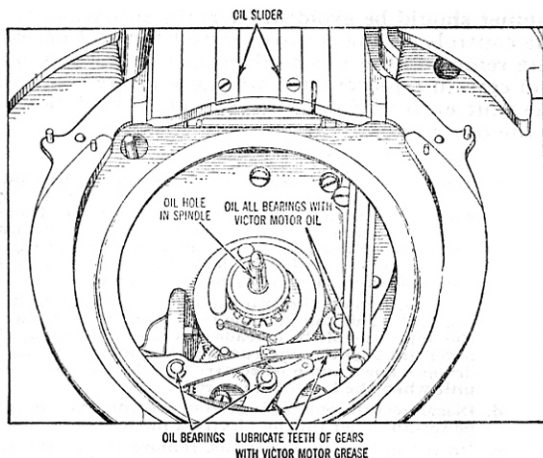

Fig. 20—Oiling Diagram Automatic Mechanism
6. LUBRICATION—Lubrication is an essential factor in the operation of the automatic instruments, and should be given careful attention. It is suggested that the motor and automatic mechanism be lubricated at least once a month with the proper lubricants. If the instrument is being operated in a public place on the usual average of eight hours a day, this lubrication period should be reduced to at least once a week. The oiling diagrams are shown in Figs. 20, 21 and 22.
30. **LUBRICATION**—A hollow motor spindle with openings at the various bearings permits lubrication of these parts as well as the back governor bearing from the oil hole shown in Fig. 20. The front governor bearing, the governor friction sleeve, and friction leather can be lubricated by inserting a long spout oil can down through the hole in the top of the mechanism below the intermediate gear. The mechanism should be oiled at least once a month, and in commercial installations, playing an average of eight hours a day, this period should be reduced to once a week. The gears and spirals should be greased once every six months.